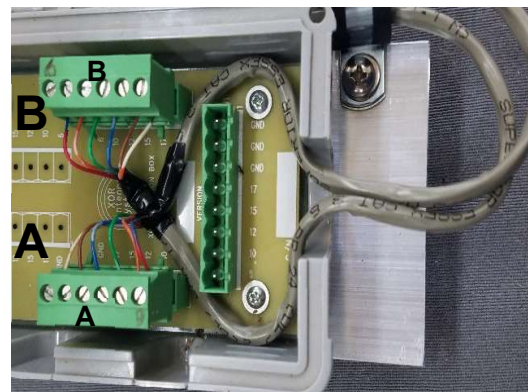

FIGURE 107
STEP 9.19 Route CAT3 control cables A and B through the JBOX opening and around the sides of the 8-position controller cable header, to their respective 6-position A and B headers, as shown in **FIG. 107**.
STEP 9.21 Manage all cables as shown in **FIG. 107**.